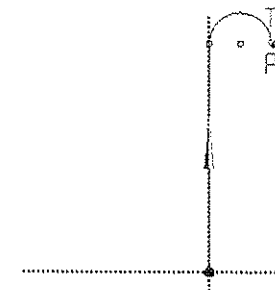

Figure 3-62 Specifying the startpoint of the line
18. Now you need to create a line tangent to the arc 1. Invoke the **Tangent Line** tool from the **Draw** toolbox and move the cursor close to the end point of arc 1; the symbols of Tangent constraint (T) and the Point Coincident constraint (P) are displayed. Click to specify the start point of the line 2, as shown in Figure 3-62.